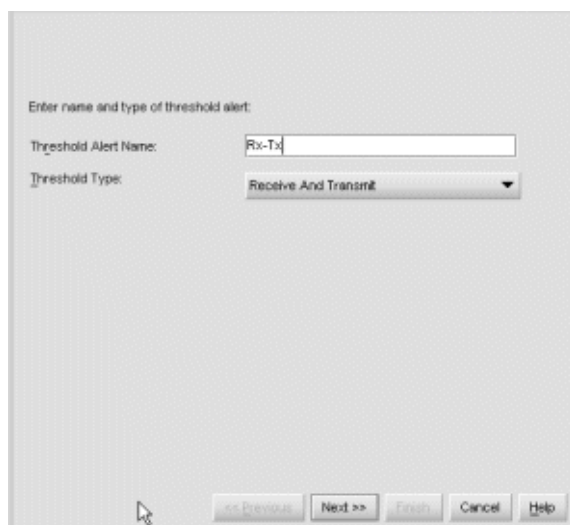

Figure 54: New Threshold Alerts dialog box—first screen
2. Click **New**. The New Threshold Alert dialog box displays, as shown in Figure 54.